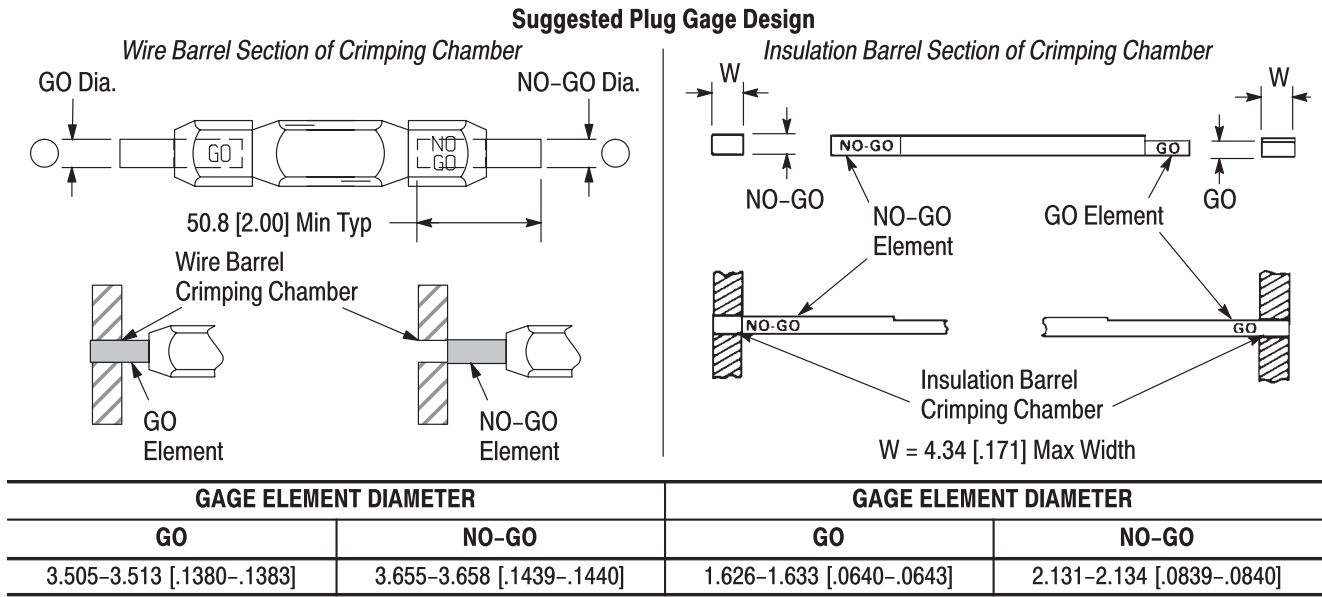

Figure 4
This inspection requires the use of a plug gage conforming to the dimensions in Figure 4. To gage the crimping chamber, proceed as follows:
3. Carefully insert the GO element into the crimping chamber; do not force it. The GO element must pass completely through the crimping chamber. See Figure 4.
4. In the same manner, try to insert the NO-GO element into the same crimping chamber. The NO-GO element may begin entry, but may not pass through the crimping chamber. See Figure 4.
1. Refer to the table in Figure 4 and select a terminal (LP) and *maximum* size wire for the hand tool.
- Changed gage information in Figure 4.